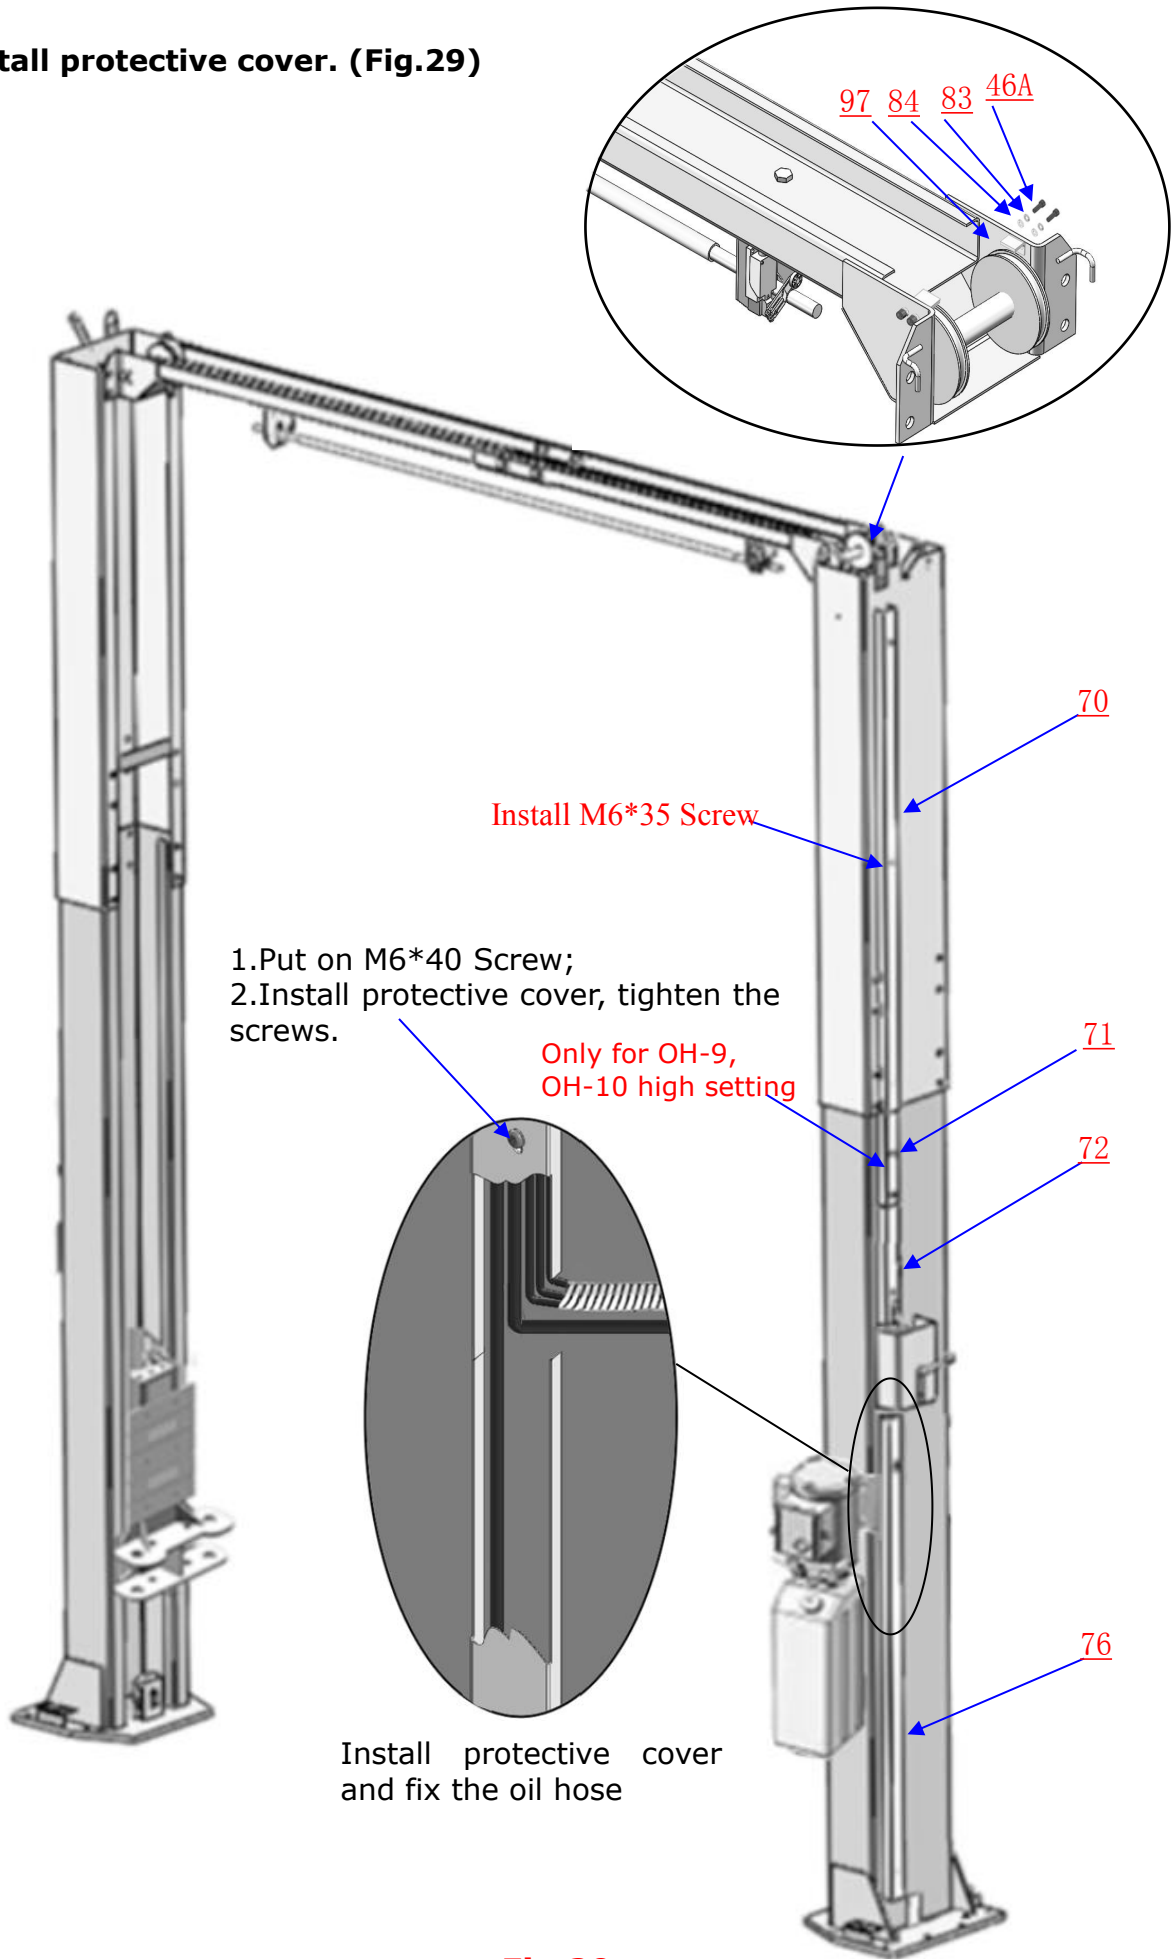

Fig.29
M. Install protective cover. (Fig.29)